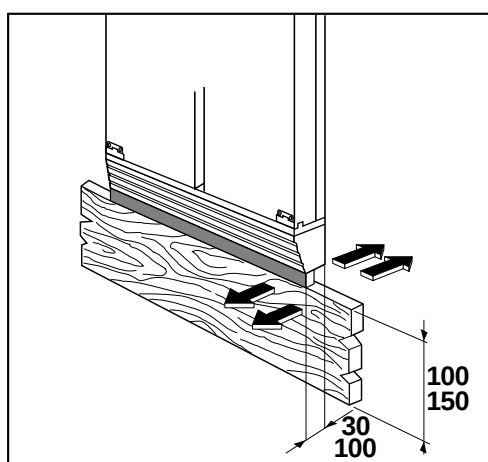

Fig. 19
- If using a 100 mm plinth, fit the complete height compensation strip (Fig. 19).
- If using a 150 mm plinth, fit the complete height compensation strip (Fig. 19).